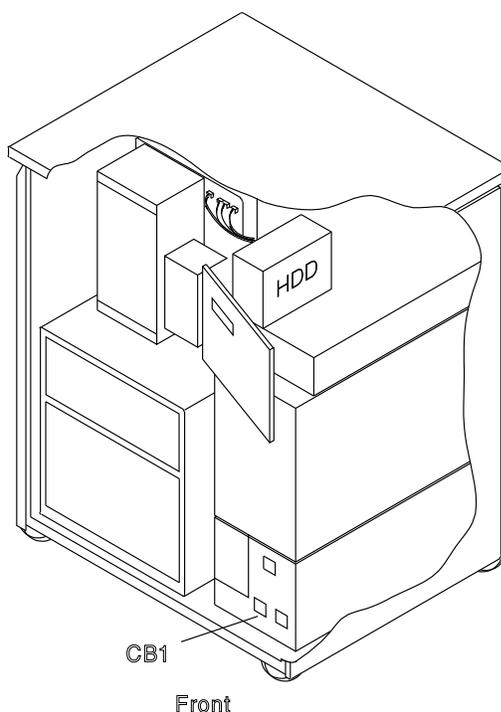

Figure 4-75. HDD and CB1 Locations
Removal Procedure: For physical locations, refer to Figure 4-75.
- 3) **Switch CB1 OFF.** Refer to Figure 4-75